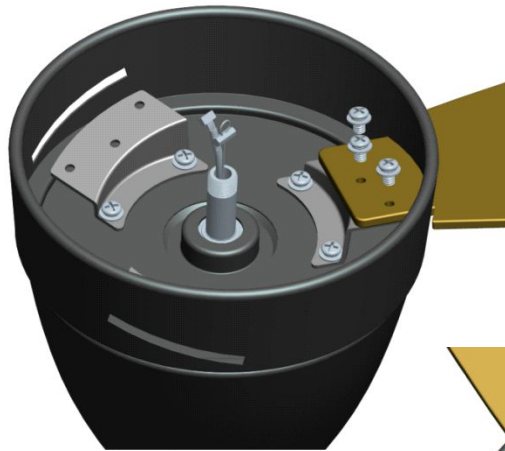

Fig 2.1
2.1 Locate 9 blade attachment screws and washers in the hardware pack. Slide blade through lamp cover and align three blade holes with the screw holes of the blade bracket and fasten blades with the screws and washers as shown in Fig 2.1.